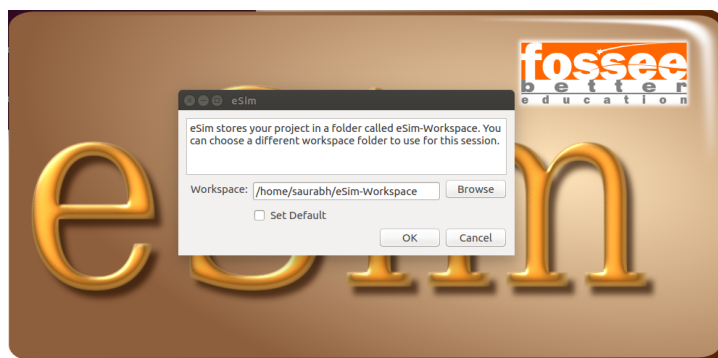

Figure 4.1: eSim-Workspace
The first window that appears is the workspace dialog as shown in Fig. 4.1.
- **Change workspace :** Clicking on this will open the window shown in Fig. 4.1. If you have chosen a default workspace location but wish to change it later on, launch eSim, click on this icon and do the necessary changes.